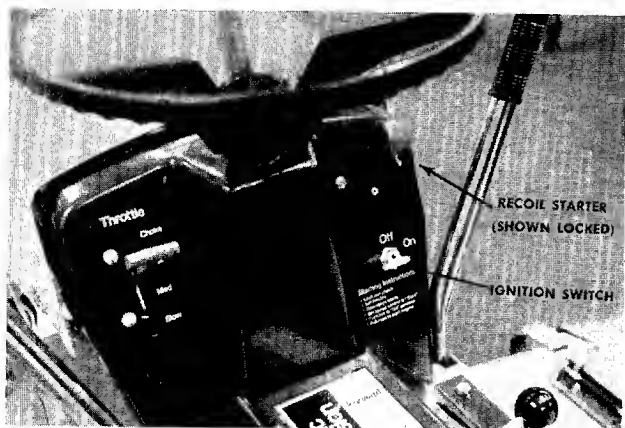

FIGURE 10. RECOIL STARTER
Recoil Model. See figure 10. Turn the key to the ON position when starting the engine. To stop the engine turn the key to the left to the OFF position and remove the key to prevent accidental starting.
k. **Recoil Starter. Model 132-480 Only.** The recoil starter is located on the right side of the dashboard. The recoil starter can either be pulled while seated on the rider or pulled while standing behind the rider. The ignition key must be on before the engine will start. After the engine starts, the recoil starter handle must be returned and locked into the dashboard before the blades or clutch are engaged. The engine will stop if you do not follow these instructions. See figure 10.